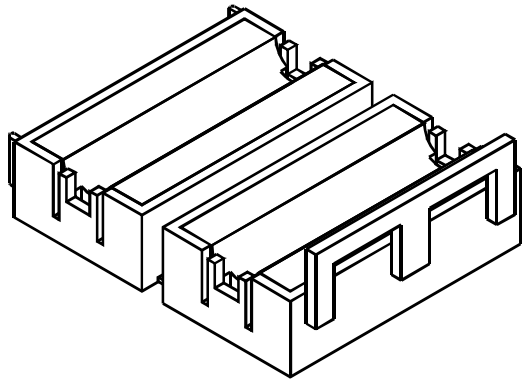

FIG. 3-17 SUPPRESSION CORE OPEN
- Step 4. Open the core until it is wide enough to enclose all the strands of wire. (See Fig. 3-17)